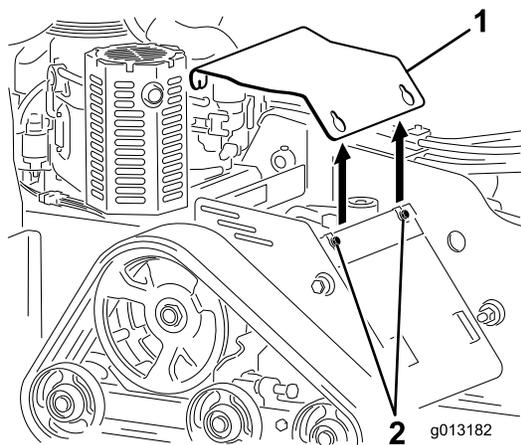

Figure 23
4. Loosen the 3 bolts securing the cover plate to the frame sequentially until the cover is loose (Figure 23).
6. To install the cover plate before operating the machine, slide the plate into place and secure it with the 3 bolts you loosened previously (Figure 23).